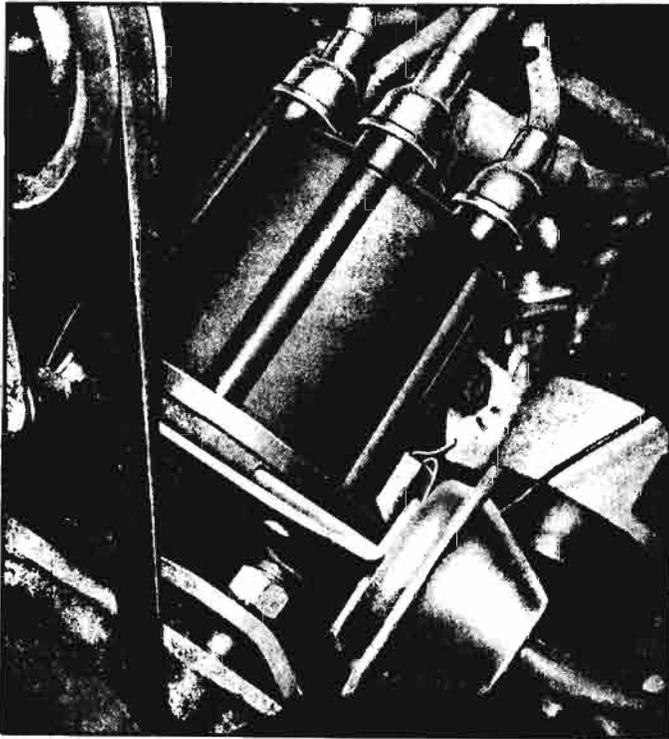

Fig. 8-60—Distributor Installed
3. Push the distributor down into position in the block with the housing in a normal "installed" position (fig. 8-60).
2. Position distributor to opening in block in normal installed attitude (see Figure 8-60 noting position of vacuum control unit).